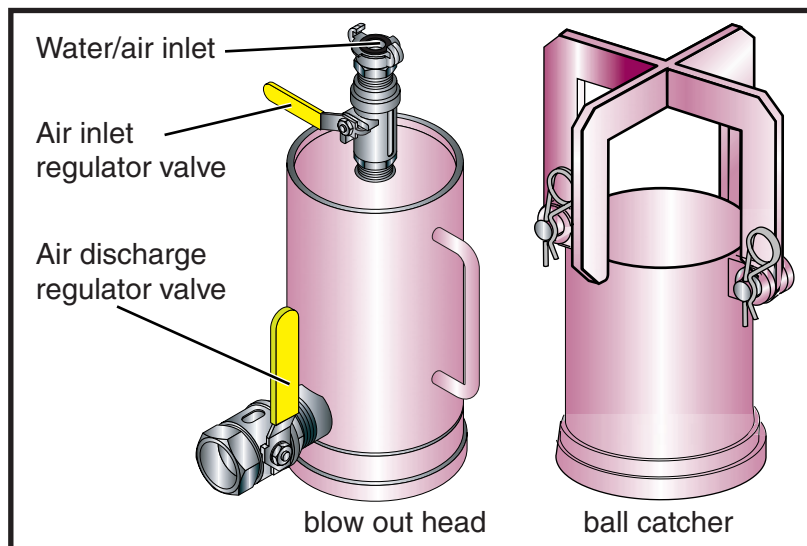

Figure 4
- A hose that is rated for the pressure of the air compressor you will use and that is able to connect with both the air compressor and the blow out head. The hose must be in good working condition and must be free of cracks, frays, tears or other damage. Do **NOT** improvise on this. **Make sure** that you have the right part (Figure 4).